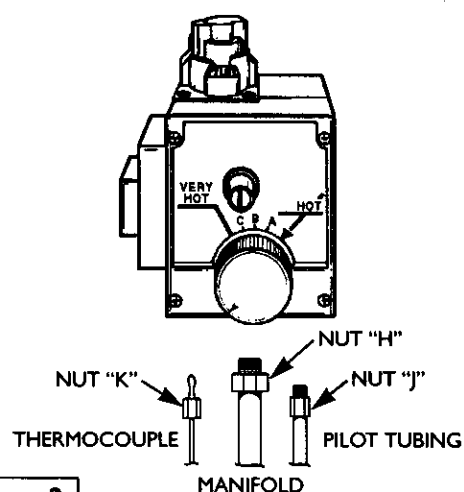
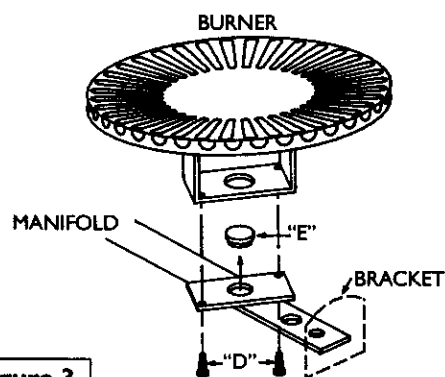

Figure 2
Figure 3
- Step 3. Remove burner assembly from water heater and control by loosening  $\frac{3}{4}$ " nut "H" holding burner assembly to control. (See Figure 2, page 17). Loosen pilot tube nut "J" and thermocouple nut "K" at control.
- Step 4. Remove screws "D" disengaging manifold from burner. (See Figure 3, page 17)
- Step 5. Remove orifice "E" (See Figure 3, page 17) using  $\frac{3}{8}$ " wrench. Install orifice marked "L.P." found in the bag into manifold. Tighten securely. Secure burner to manifold with screws "D".
- Step 7. Make sure all connections are tightened securely, and reinstall burner assembly into water heater. Position end of the manifold inside bracket as shown in Figure 3 on page 17. Reinstall manifold into control and tighten  $\frac{3}{4}$ " nut ("H") securely. Recheck to see that end of manifold is still inside bracket as shown in Figure 3 on page 17. Reinstall pilot tubing and thermocouple into control. (See Figure 2, page 17)
- Step 14. Push in control knob all the way and hold down. Immediately light the pilot with a match. Continue to hold control knob in for about one (1) minute after the pilot is lit. Release knob and it will pop back up. Pilot should remain lit. If it goes out, repeat steps 9 through 12.
- Step 15. Check for gas leaks with only pilot flame burning using a soapy water solution, not a match or open flame. Check for gas leaks at fittings "F" and "G" (See Figure 4, page 17) and at fitting "J" (See Figure 2, page 17).
- Step 19. With a soapy water solution, not a match or open flame, check for gas leaks at gas connection "H". (See Figure 2, page 17). If gas leak occurs, turn off immediately by shutting off gas cock at inlet to control, or by turning gas control knob (↻) to "PILOT" pushing down and turning to "OFF". Repair gas leak as necessary, and repeat steps 9 through 19.